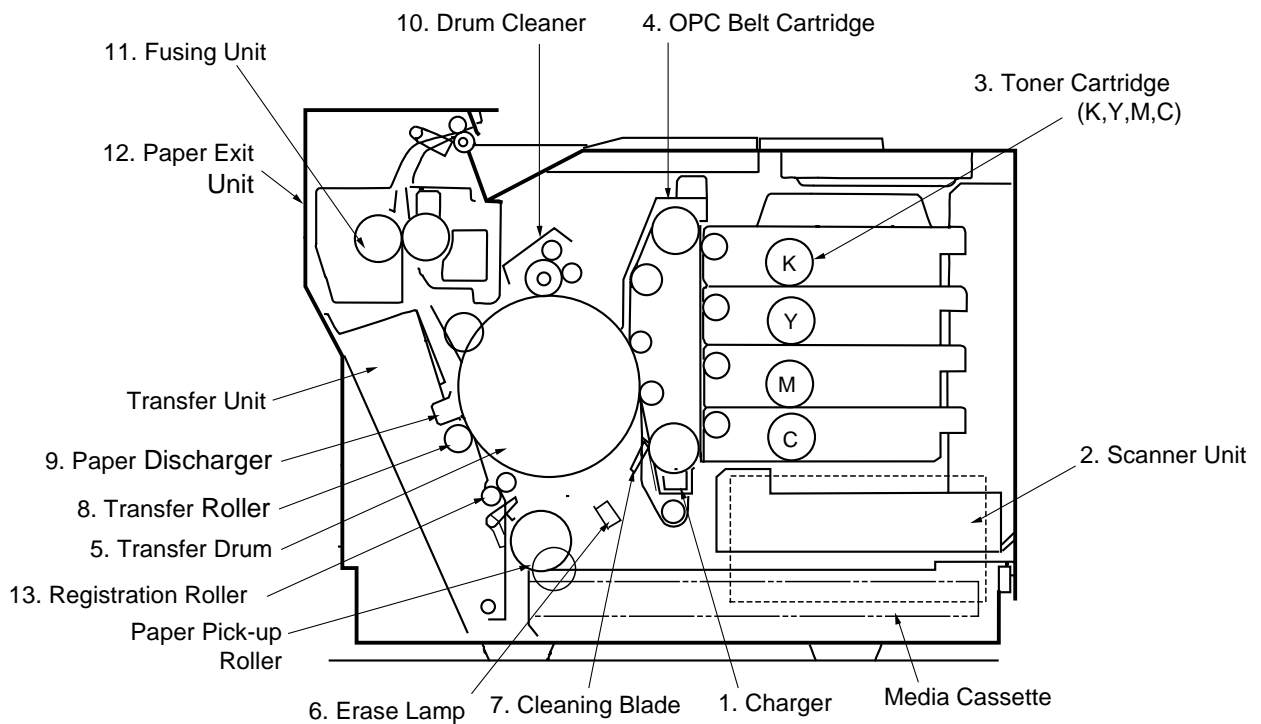
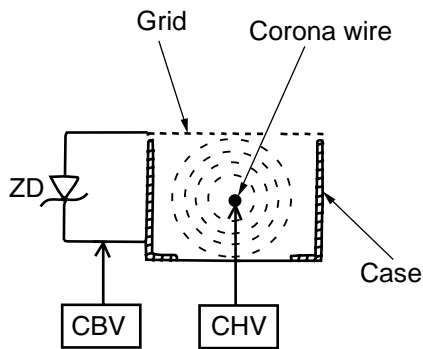

Fig.4-8
Fig.4-11
- (1) Structure of the Charger Unit (Refer to Fig.4-8 and Fig.4-11)
- i) The charger unit is located as shown in Fig.4-8.
- (1) Structure of Scanner Unit
- i) The scanner unit is located as shown in Fig.4-8.
- (1) Structure of the Toner Cartridge (Refer to Fig.4-8 & 4.14.)
- i) The toner cartridge is located as shown in Fig.4-8.
- (2) Process of Developing (Refer to Fig.4-8, 4-14, 4-15, and 4-16)
- (1) Structure of the Transfer Drum (Refer to Fig.4-8.)
- i) The drum is located as shown in Fig.4-8.